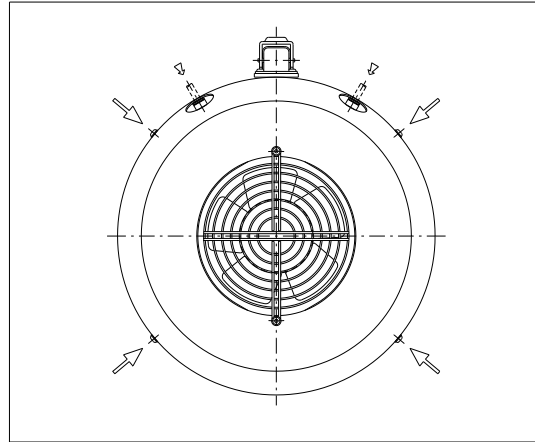

Figure 6
- Only for the version with ventilator cover:** the ventilator is supplied already installed on the ventilator cover on which an electrical connector is also mounted. Anchor the ventilator cover to the two mounting brackets using 4 M4 screws and a n.2.5 Allen wrench (Figure 6). **NOTE:** Position the two apertures on the ventilator cover at the level of the air feed fittings.